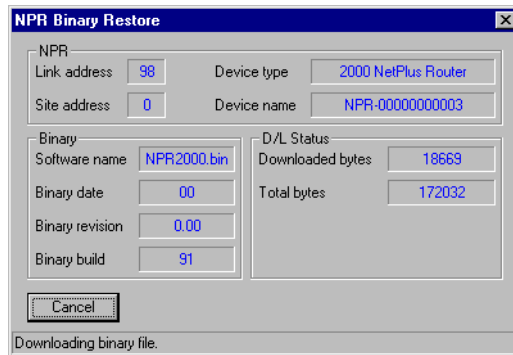

Figure 3-25. NPR Binary Restore Status
7. Select **Download** to begin downloading software to the selected NPRs. As the NPRs are being updated, a dialog displays the download status (see Figure 3-25).